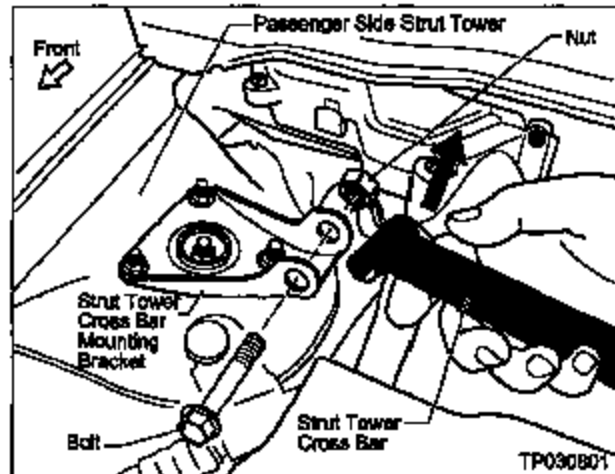

Figure 1
- a. Remove the nut/bolt that holds the Strut Tower Cross Bar to the Strut Tower Cross Bar Mounting Bracket (see Figure 1).